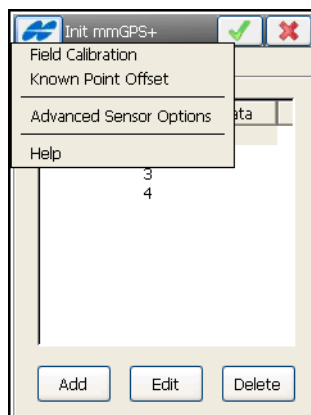

Figure A-12. Open Field Calibration
3. With the controller and sensor connected, tap **Setup GPS ▶ Init mmGPS**. The *Init mmGPS+* screen displays (Figure A-12 on page A-8).
4. On the *Init mmGPS+* screen, tap the Help Icon menu in the upper-left corner of the screen and select **Field Calibration** (Figure A-12). The *Calibration* screen displays (Figure A-13).